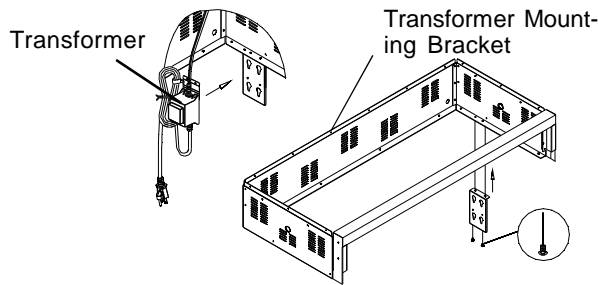

Fig. 1
- Install the Transformer Mounting Bracket to the underside of the Left Panel of the Bowl Frame using 2 Phillips Head Screws 3/16"x3/8" and 2 Plain Washers 1/4" and tighten securely (see Fig. 1).